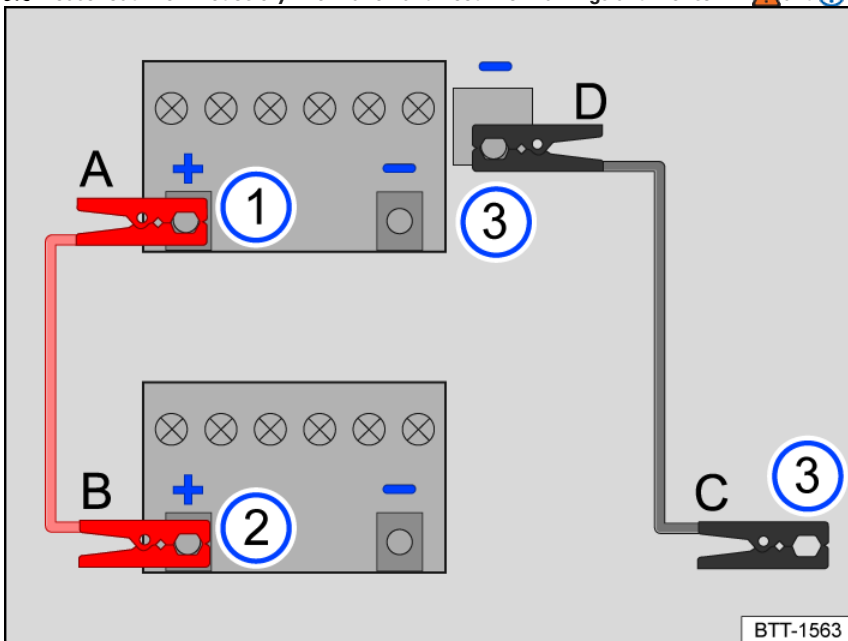
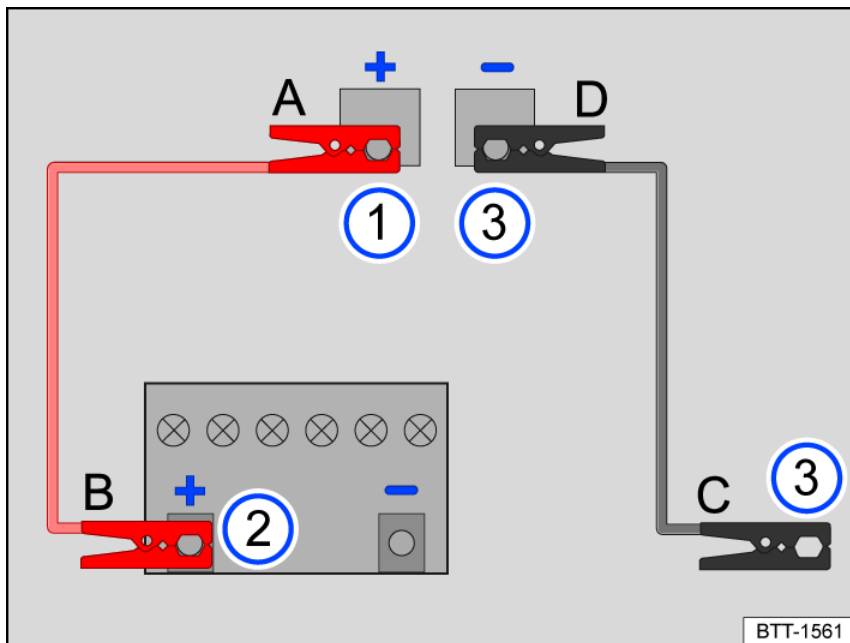

Fig. 183 Diagram for connecting the jumper cable (12-volt vehicle battery in the engine compartment).
Fig. 184 Diagram for connecting the jumper cable to the vehicle providing the power for the jump start (12-volt vehicle battery in the luggage compartment).
Key for fig. 183 and fig. 184:
Only connect the jump-start cables in the sequence **A – B – C – D** fig. 183.
- Connect one end of the *red* jumper cable **A** to the positive terminal **+** of the vehicle's battery with the discharged 12-volt vehicle battery fig. 183 ① → ⚠.
- Connect the other end of the *red* jumper cable **B** to the positive terminal **+** of the battery on the vehicle providing the power fig. 183 ②.
- Connect one end of the *black* jumper cable **C** preferably to a jump-start point (ground connection), otherwise to a solid piece of metal that is firmly bolted to the cylinder block or to the actual cylinder block of the vehicle providing the power fig. 183 ③.
- Connect the other end of the *black* jumper cable **D** to the jump-start point (negative connection) or a large metal part bolted to the engine block or to the engine block itself in the vehicle with the drained 12-volt vehicle battery fig. 183 ③ → ⚠.
Only connect the jump-start cables in the sequence **A – B – C – D** fig. 184.
- Connect one end of the *red* jumper cable **A** to the jump-start point positive battery terminal (**+**) on the vehicle with the discharged 12-volt vehicle battery fig. 184 ① → ⚠.
- Connect the other end of the *red* jumper cable **B** to the positive terminal **+** of the battery on the vehicle providing the power fig. 184 ②.
- Connect one end of the *black* jumper cable **C** preferably to a jump-start point (ground connection) on the vehicle providing the power from its 12-volt battery, otherwise to a large metal part bolted to the engine block or to the engine block itself fig. 184 ③.
- Connect the other end of the *black* jumper cable **D** preferably to the jump-start point ground connection on the vehicle with the discharged 12-volt vehicle battery (–), otherwise to a large metal part bolted to the engine block or to the engine block itself *fig. 184* ③ → .
- With the engines running, always disconnect the jump-start cables in the sequence **D – C – B – A** *fig. 183* or *fig. 184*.